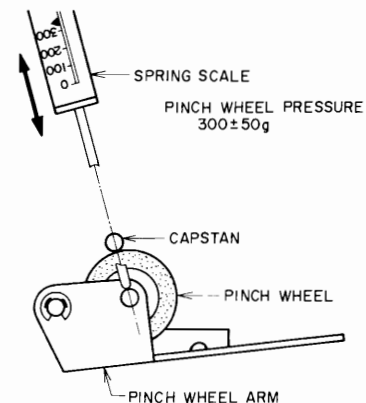

Fig. 10
9. PINCH WHEEL PRESSURE MEASURING METHOD (See Fig. 10)
As shown in Fig. 10, at playback mode, press the pinch wheel arm toward shaft with a spring scale, and when the pinch wheel separates from the capstan, read the spring scale indication.